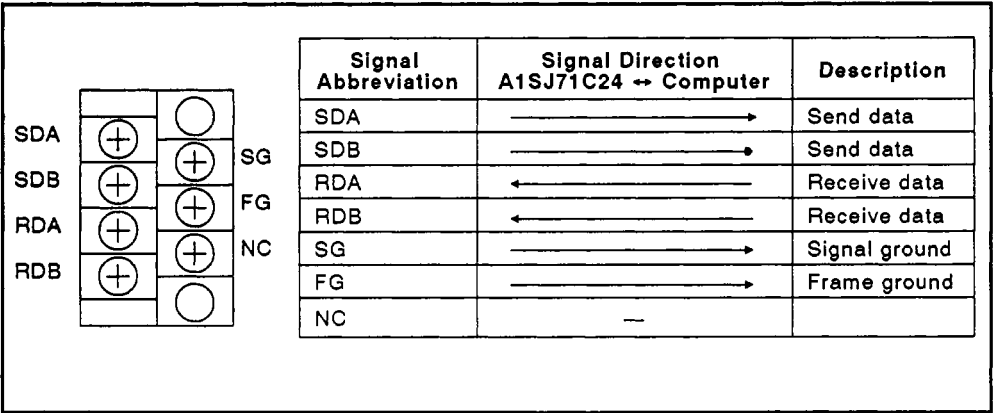

Fig. 13.1 RS-422/485 Interface Specifications
(1) Fig. 13.1 gives the specifications of the RS-422/485 interface used for connection between a computer and the A1SJ71C24 and between the A1SJ71C24 modules.